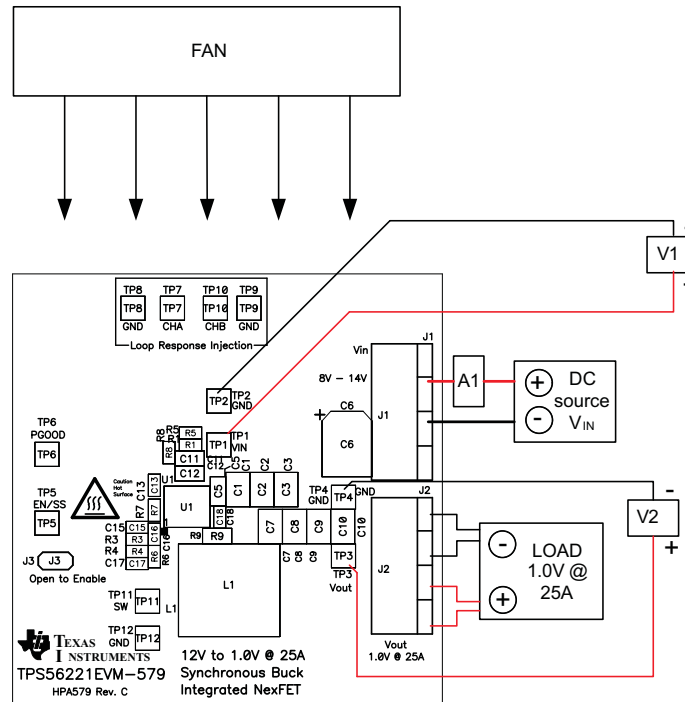

Figure 2. TPS56221EVM-579 Recommended Test Setup
Figure 2 is the recommended test setup to evaluate the TPS56221EVM-579.
2. Prior to connecting the DC input source, VIN, it is advisable to limit the source current from VIN to 4.0 A maximum. Make sure VIN is initially set to 0 V and connected as shown in Figure 2.
3. Connect VIN to J1 as shown in Figure 2.
4. Connect ammeter A1 between VIN and J1 as shown in Figure 2.
5. Connect voltmeter V1 to TP1 and TP2 as shown in Figure 2.
6. Connect voltmeter V2 to TP3 and TP4 as shown in Figure 2.
7. Place the fan as shown in Figure 2 and turn it on, ensuring that the air blows directly across the evaluation module.
1. Set up the EVM as described in Section 5.3 and Figure 2.